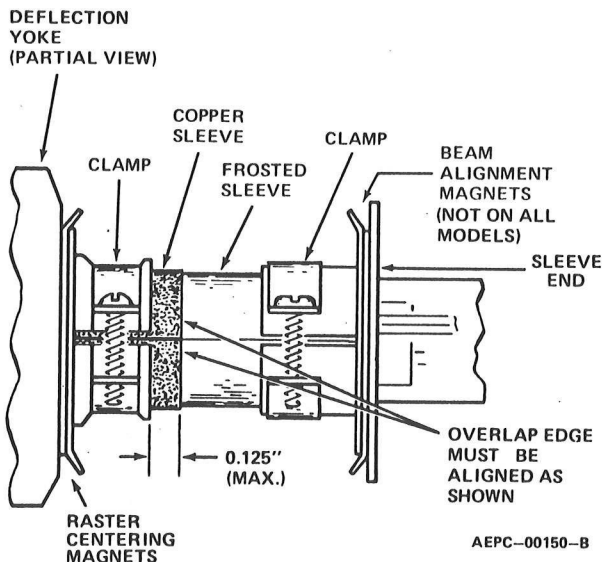

Figure 1. Partial View of CRT Neck/Deflection Yoke for Horiz. Linearity Adjustment
Step 3. (Refer to Figure 1.) Loosen the deflection yoke clamp screw just enough to permit sliding the copper sleeve on the CRT neck back and forth.
Step 4. (Refer to Figure 1.) Position the copper sleeve so that only 1/8" (.125") extends out past the rear lip of the deflection yoke. In addition, be sure that the overlap edge of the copper sleeve is aligned properly and not twisted.
RASTER CENTERING (Figure 1)
VIDEO CENTERING (For M1000–190 only) (Figure 1)
CRT BEAM ALIGNMENT (Figure 1)
The beam alignment magnet should be positioned on the neck of the CRT between the deflection yoke and the tube base. The correct location of the rings is approximately over the second grid of the electron gun (Figure 1).